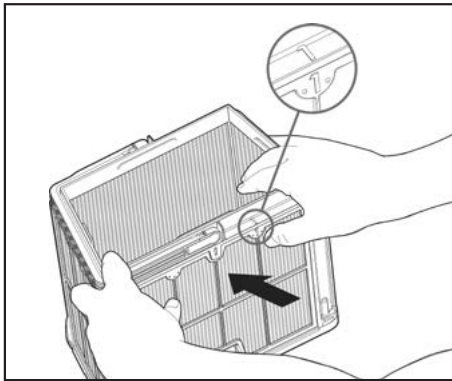

Figure 13
1. Each filter screen and side of the filter basket has a number stamped onto it. Filter screens will only fit into the matching side of the basket. See **Figure 13**.
2. Using your thumbs, firmly press the top of screen 1 inwards to detach the screen from the basket. see **Figure 13**.